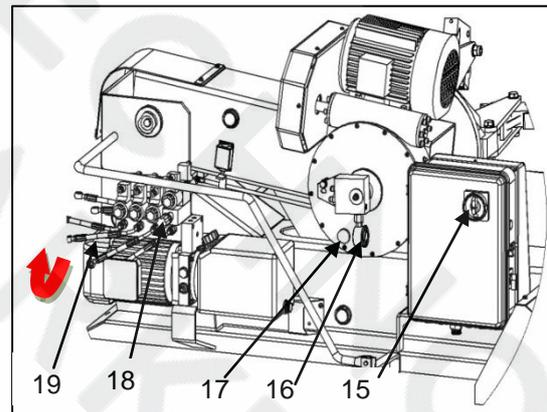

Fig 19 Construction drawing A
- E After connect the circuit of the machine, connect the switch to check if the rotation direction of the hydraulic unit is corresponding with Fig 19;
- G If the running of the machine is abnormal, you should immediately switch off the power switch (No 15 in Fig 19) and check the reason of the troubleshooting and repair.
structure to Fig 24、 Fig 19: